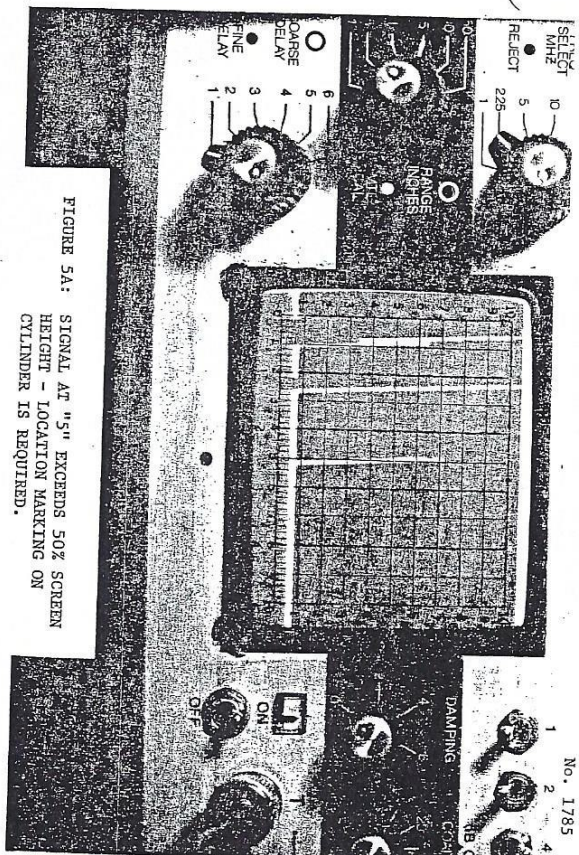

FIGURE 5A: SIGNAL AT "5" EXCEEDS 50% SCREEN HEIGHT - LOCATION MARKING ON CYLINDER IS REQUIRED.
D. Monitor CRT presentation for signals occurring between ".42" and ".5" (.45 to 50 percent screen width) that exceed 50 percent screen height, Figure 5A.